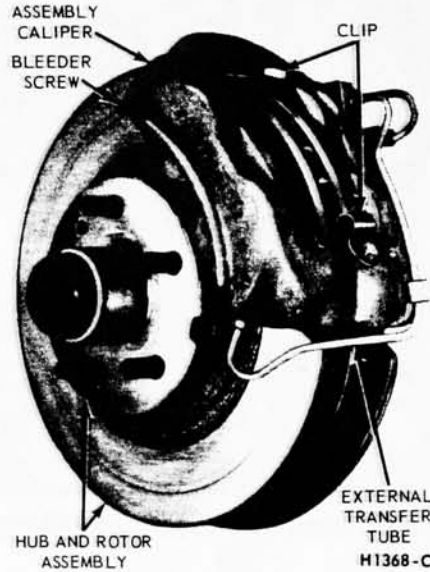

FIG. 3—Disc Brake Assembly
2. Remove the two bolts that attach brake shoe retaining clips shield (Fig. 3).